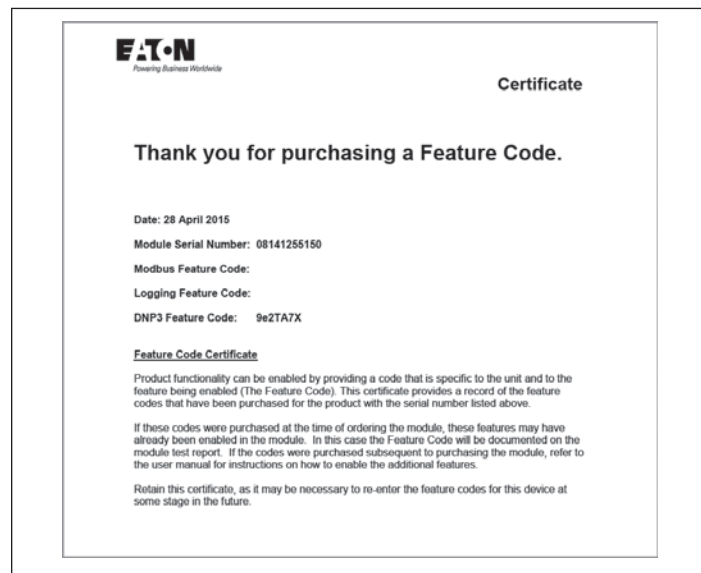

Figure 41. Example feature key certificate
1. Make sure that the module serial number on the feature key certificate (**Figure 41**) matches the serial number on the label on the left side of the module.